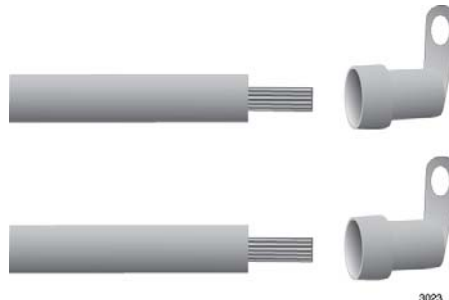

Figure 142. Attaching the Power Wires to the Right Angle Terminals
3. Insert the power wires into the right angle terminals included with the power supply and use a crimping tool to secure the wires to the terminals. See Figure 142,